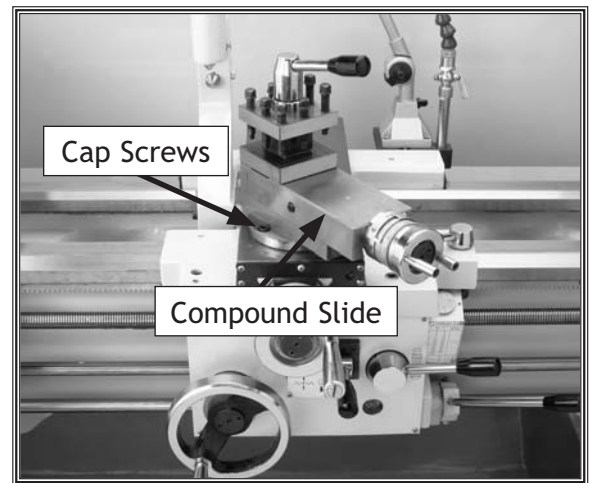

Figure 47. Compound slide set at an angle.
1. Loosen the two cap screws, one on each side of the compound slide (see **Figure 47**).